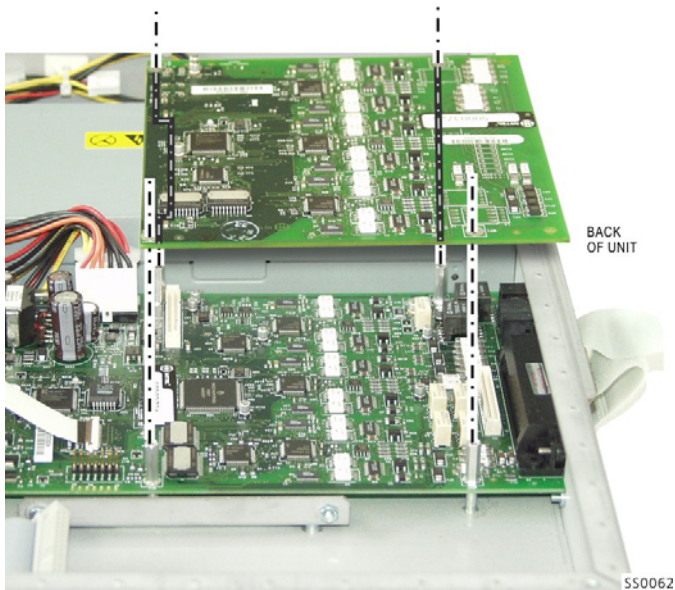

Figure 55: Screws and Standoffs on the Analog Option Board
4. Remove the four standoffs and the two screws at the front of the board (refer to Figure 55 on page 181).
1. Remove the four screws from the back portion of the Analog Main Board (AMB). See Figure 55 (page 181).